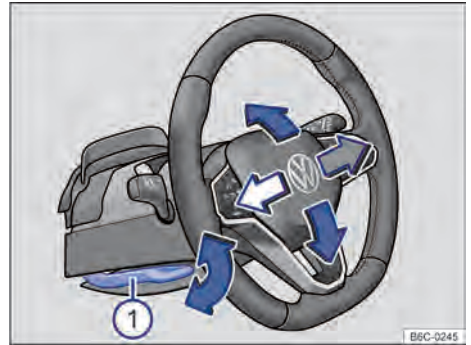

Fig. 63 Below and to the left of the steering wheel next to the steering column trim: steering wheel position adjustment lever.
- Push the lever down, holding it by the handle → Fig. 63 ①.